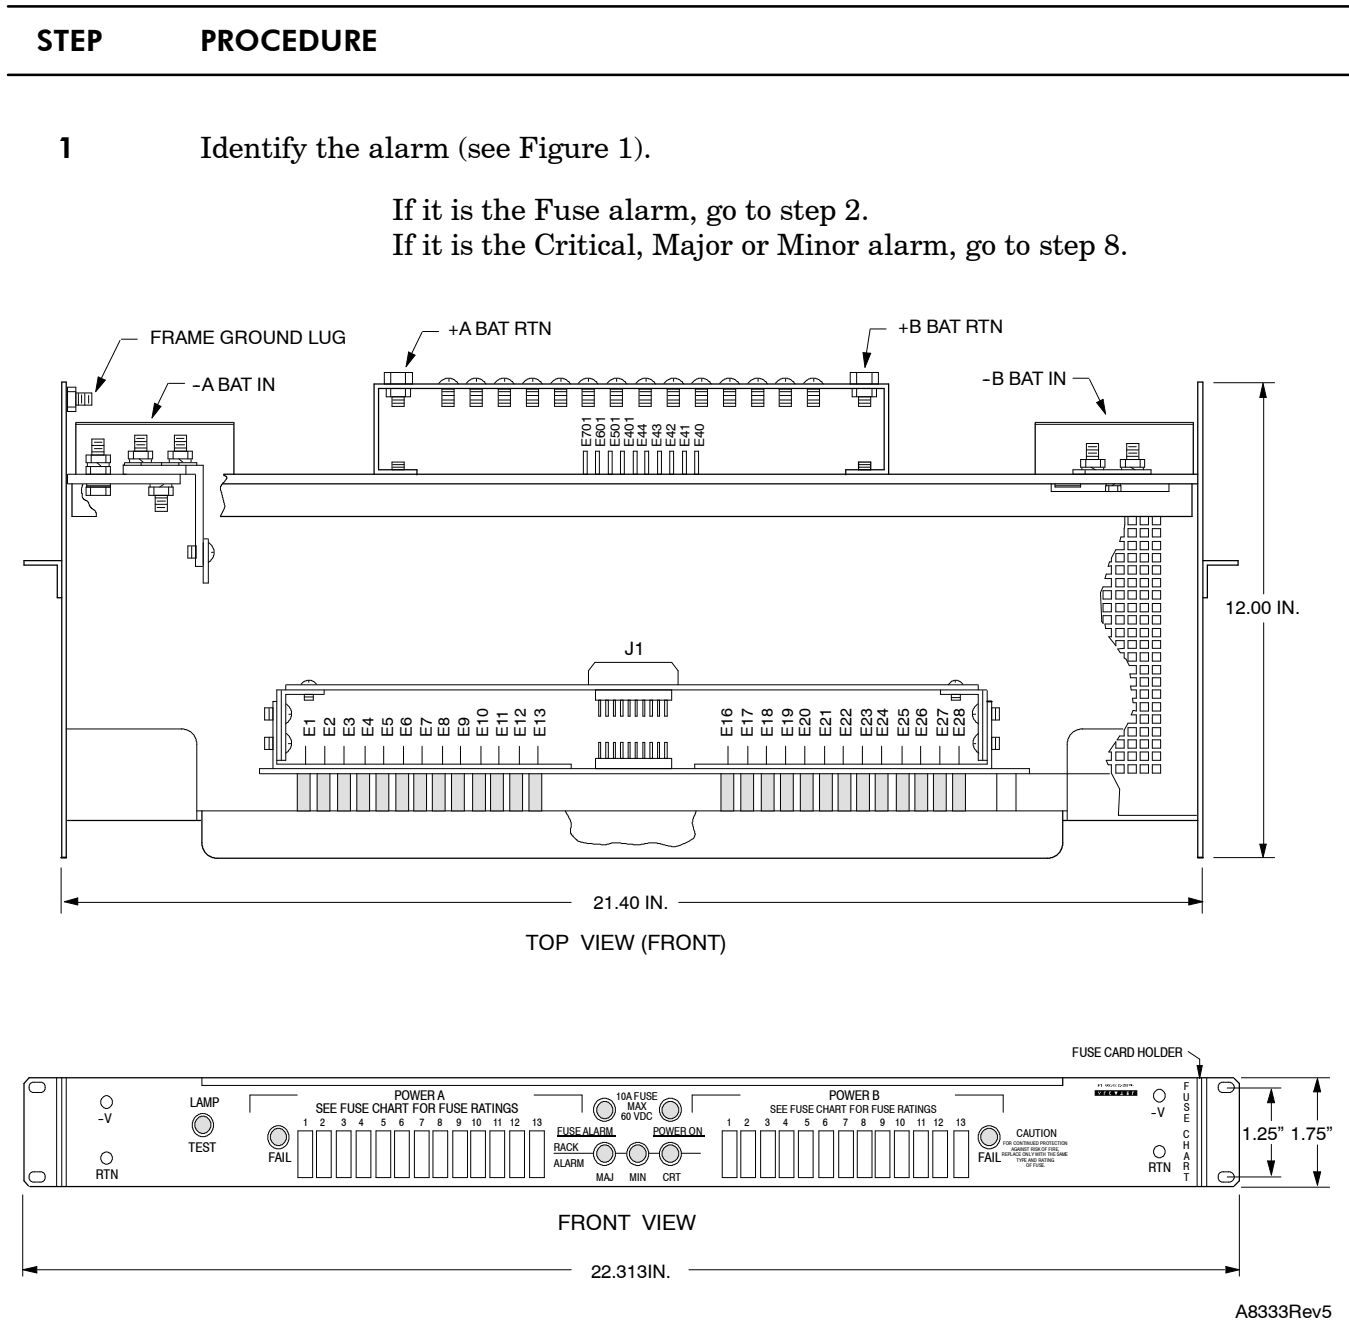

Figure 1. PDU113 Front and Top Views
- 2 See Figure 1. Look for blown fuse on the fuse distribution panel.
- 8 Examine the modules being served by the fuse panel (see configuration chart attached to front of fuse panel, Figure 1).